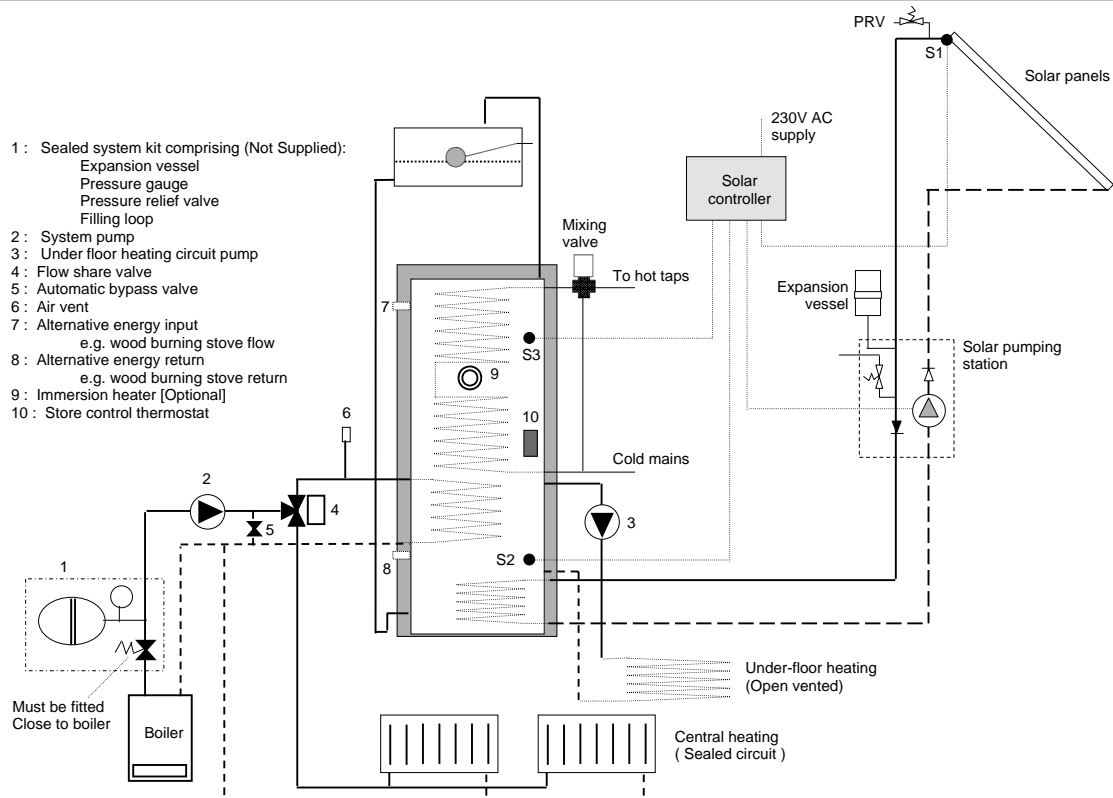

Figure 4.9 Torrent RE-Solar SP: Typical sealed 'Y-plan' central heating, open vented underfloor heating and solar heating system
- (d) Figure 4.9 shows the sealed primary 'SP' variant of the Torrent RE-solar used in a typical sealed heating system. With this system arrangement, although the boiler and the radiator central heating circuits are sealed, both the store and the under-floor heating circuit (if installed) are open vented. Therefore the feed and expansion cistern should be sized to accommodate the expansion of total water content of the open vented system (i.e. water content of the store + water content of under-floor heating circuit).
In the open vented 'OV' system (figure 4.8), this energy is available for hot water and at low level for both radiator and under-floor (if installed) space heating circuits. However in the sealed primary 'SP' system configuration (figure 4.9), this energy is only available for hot water and at low levels for the under-floor space heating circuit (if installed).